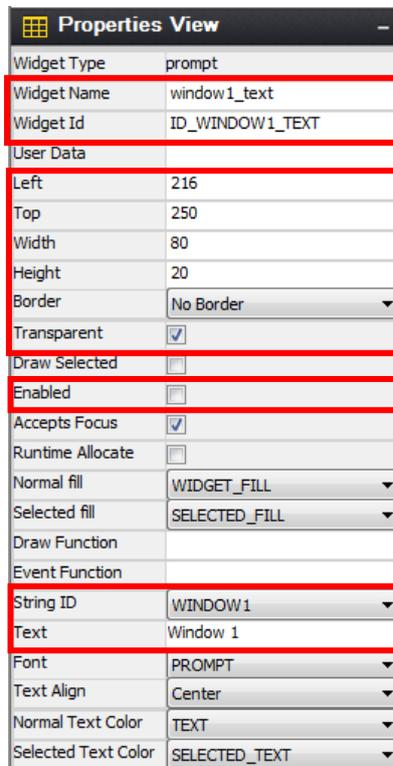

Figure 87 Configure Window Text Properties
35. In the Project View under window1, click on prompt_1 then modify the properties to match Figure 87.